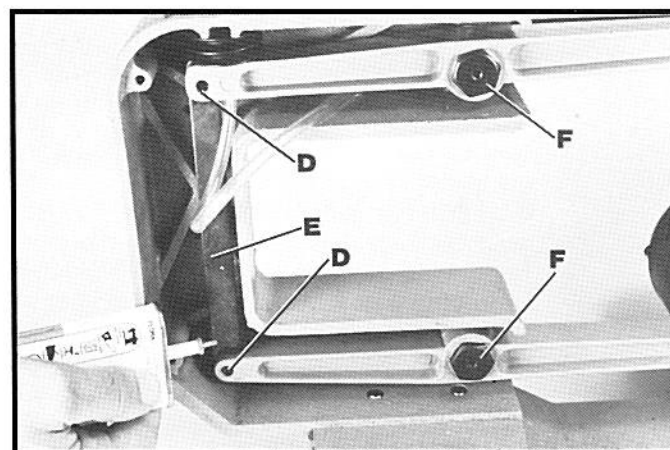

Fig. 42
4. Lubricate the shafts of two special screws (D) Fig. 42, with a few drops of light machine oil in the areas where they pass through the connecting link (E). **NOTE: DO NOT REMOVE SPECIAL SCREWS TO LUBRICATE.**